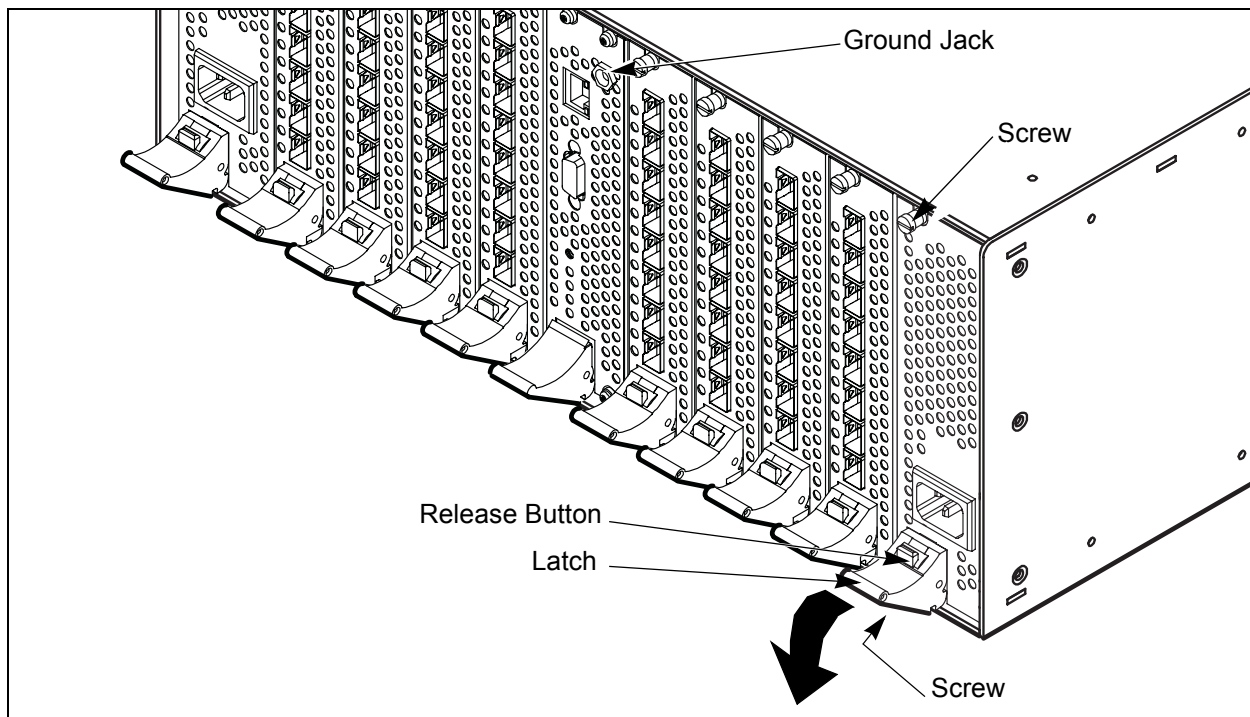

Figure 6-7. Removing a Power Supply Module
3. Connect an ESD wrist strap to the ground jack on the CPU module shown in Figure 6-7 or some other ground point on the chassis.
4. Using a flat-blade screw driver, loosen the captive screws at the top and bottom of the module faceplate as shown in Figure 6-7. The bottom screw is under the latch.